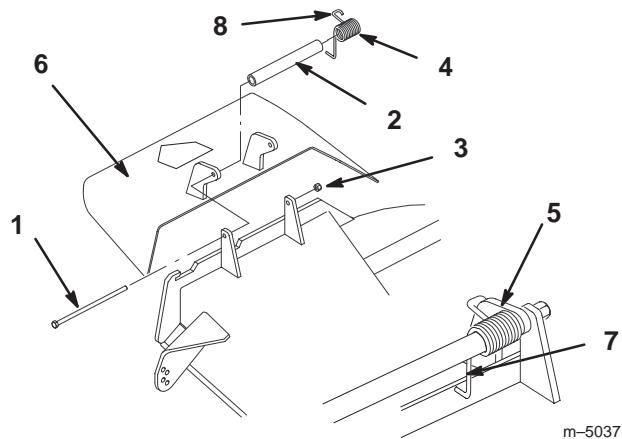

Figure 58
- Remove the locknut, bolt, spring and spacer holding the deflector to the pivot brackets (Fig. 58). Remove damaged or worn grass deflector.
Note: Make sure the **L** end of spring is installed behind deck edge before installing the bolt as shown in figure 58.
- Install bolt and nut. Place the **J** hook end of spring around grass deflector (Fig. 58).